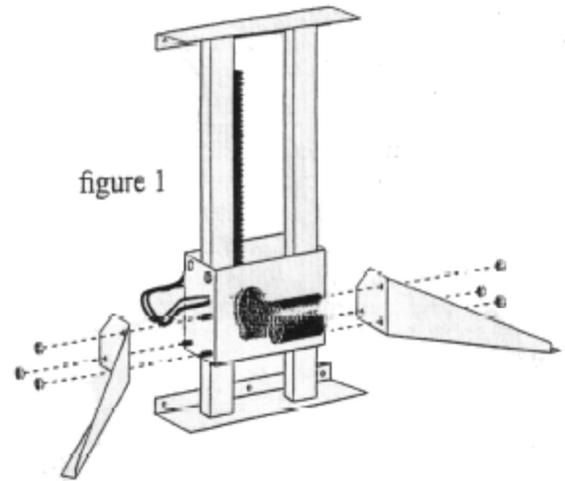

figure 1
2. Place the **Lift Wings** on the **Lift** as shown in figure 1 and fasten them using the **Nuts** provided. Unplug the **Lift**.